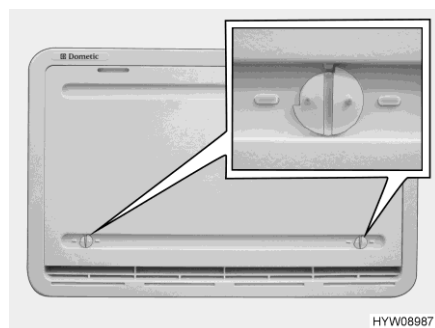

Fig. 239 Winter cover
If the refrigerator is to be operated at low external temperatures, the manufacturer recommends the use of a winter cover (Fig. 239) for the refrigerator ventilation grills.
- Open both locks (Fig. 239) (groove in horizontal position).